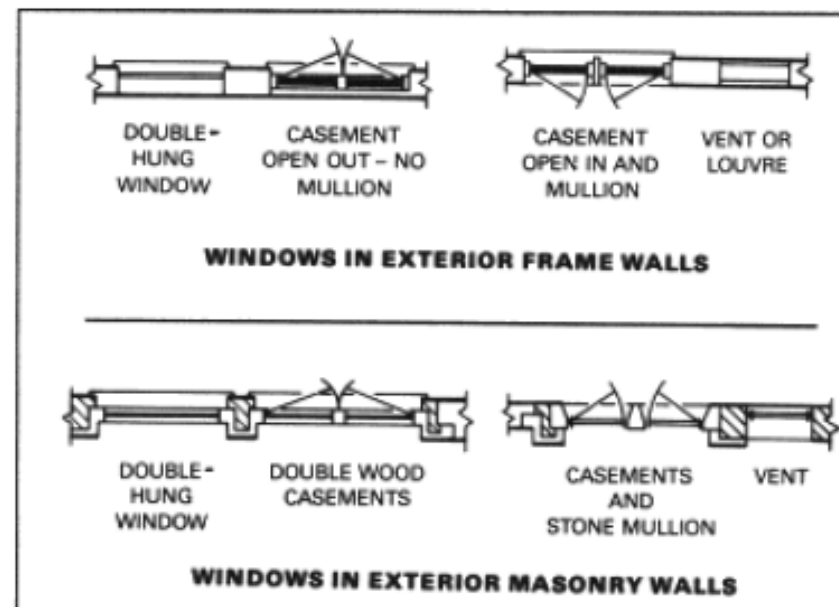
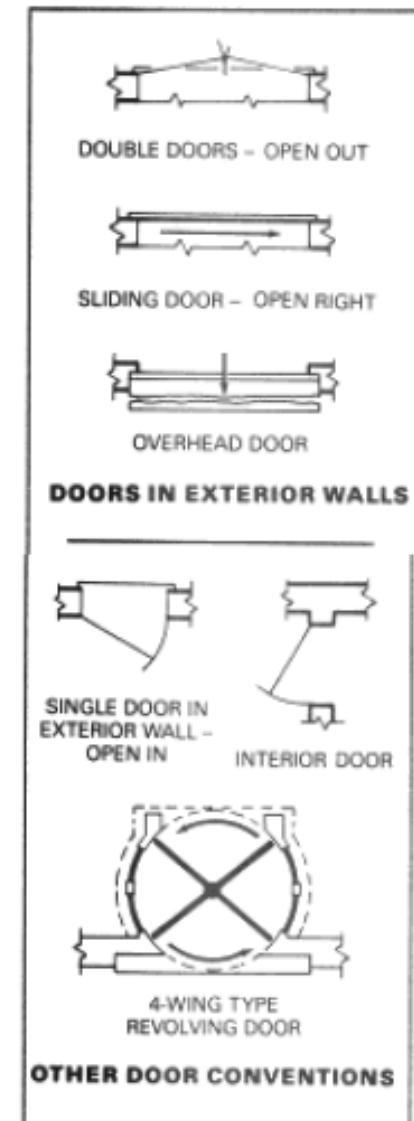

Figure 1-1. Window symbols
Figure 1-2. Door symbols
*Architectural symbols* on construction drawings show the type and location of windows (Figure 1-1), doors (Figure 1-2), and other features. They show the general shape of an actual architectural feature and show any motion that is supposed to occur.